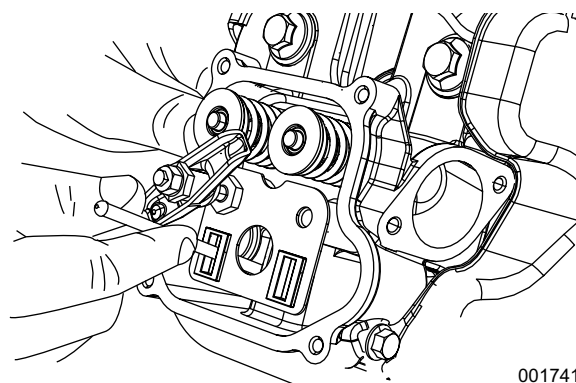

Figure 6-16. Install Push Rods
7. See Figure 6-16. Rotate rocker arm as shown to install push rod. Insert push rod through push rod guide plate, with either end resting against the tappet. Place rocker arm over push rod. Alignment is correct when push rod ball rests in rocker arm socket.